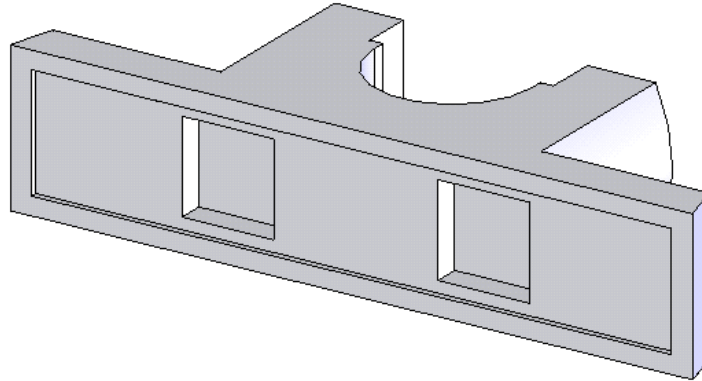

Figure 6-85 Cut feature added to the model
- c. Create the rectangular recess at the bottom of the base as a cut feature, refer to Figure 6-85.
- d. Create the square cuts, which act as the recess of square head bolt, refer to Figure 6-85.
The rotated model after adding this cut feature is shown in Figure 6-85.